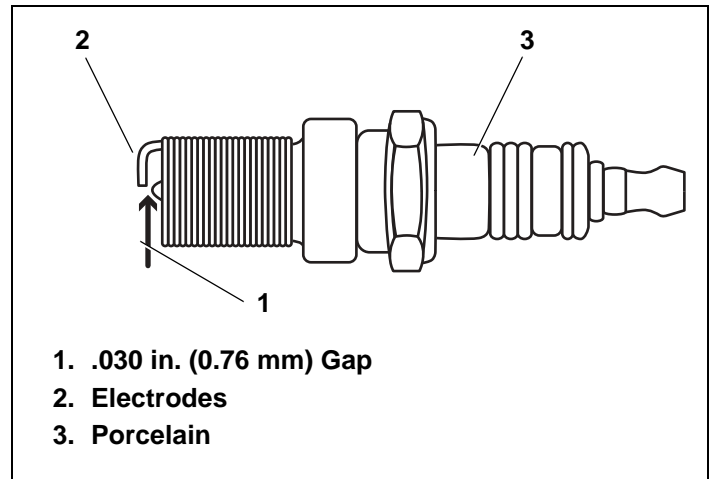

Figure 16. Resistor Spark Plug
4. Check electrode gap with wire feeler gauge and set gap to—.030 (0.76 mm) if necessary. See Figure 16.